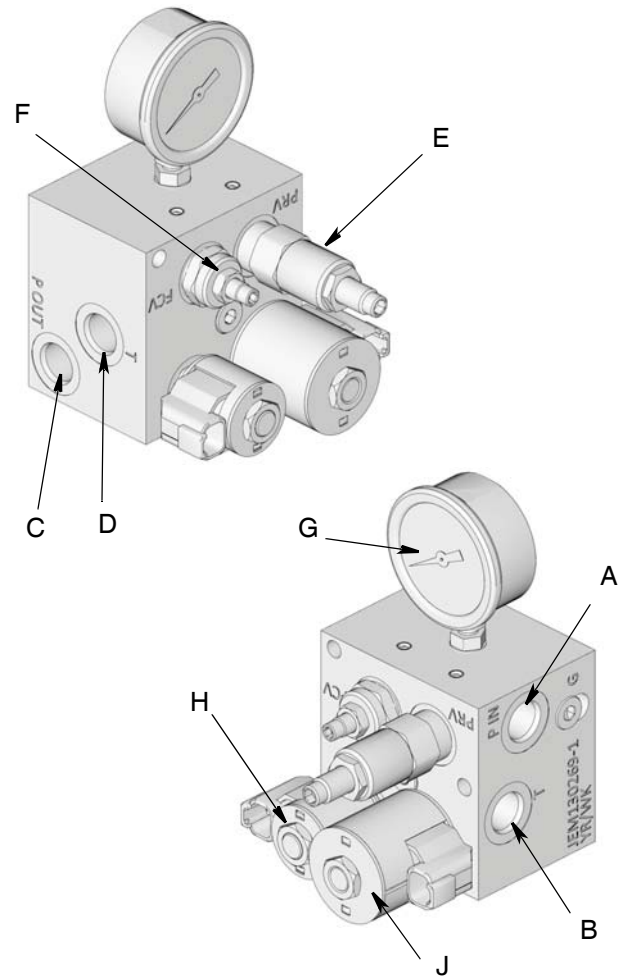
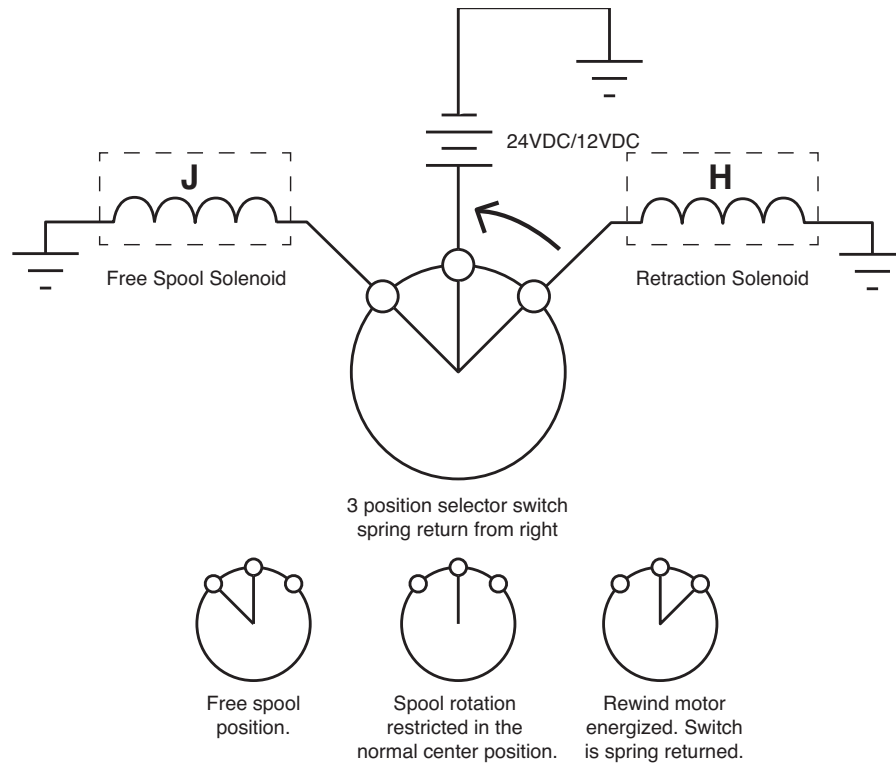
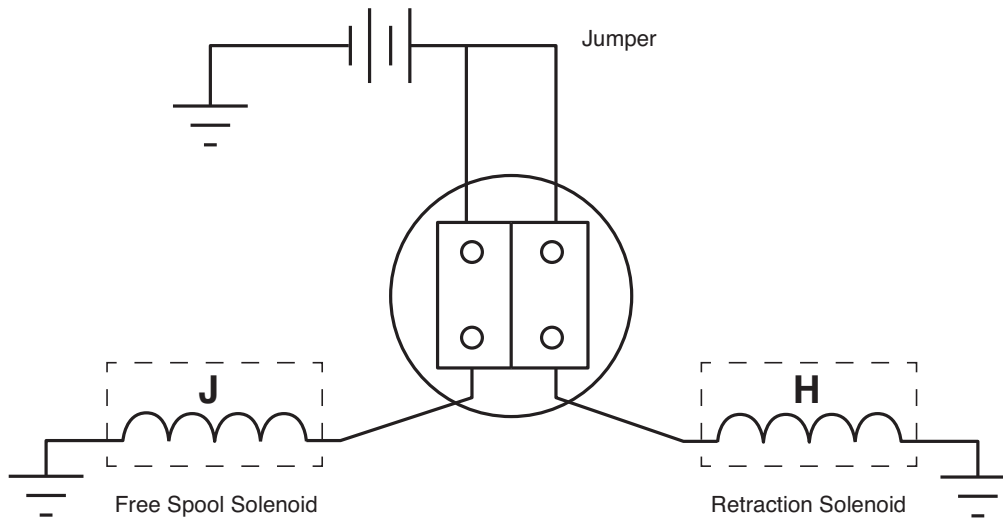

FIG. 19
FIG. 20
FIG. 21
1. Install hydraulic control (Graco PN 127224 - 12V or 127225 - 24V. See Miscellaneous Kits, page 42) (FIG. 19).
- a. Connect hydraulic power supply to hydraulic pressure inlet (A).
- b. Connect tank return hose to tank port (B).
- c. Connect hydraulic pressure outlet (C) to proper hydraulic motor inlet on reel for the desired rotation direction.
- d. Connect tank return (D) to remaining port on reel motor.
2. Wire switch to solenoids on hydraulic control module as shown in (FIG. 20 and FIG. 21).
- Hydraulic Motors - Reverse input and return to tank lines on hydraulic motor (FIG. 19, page 26).